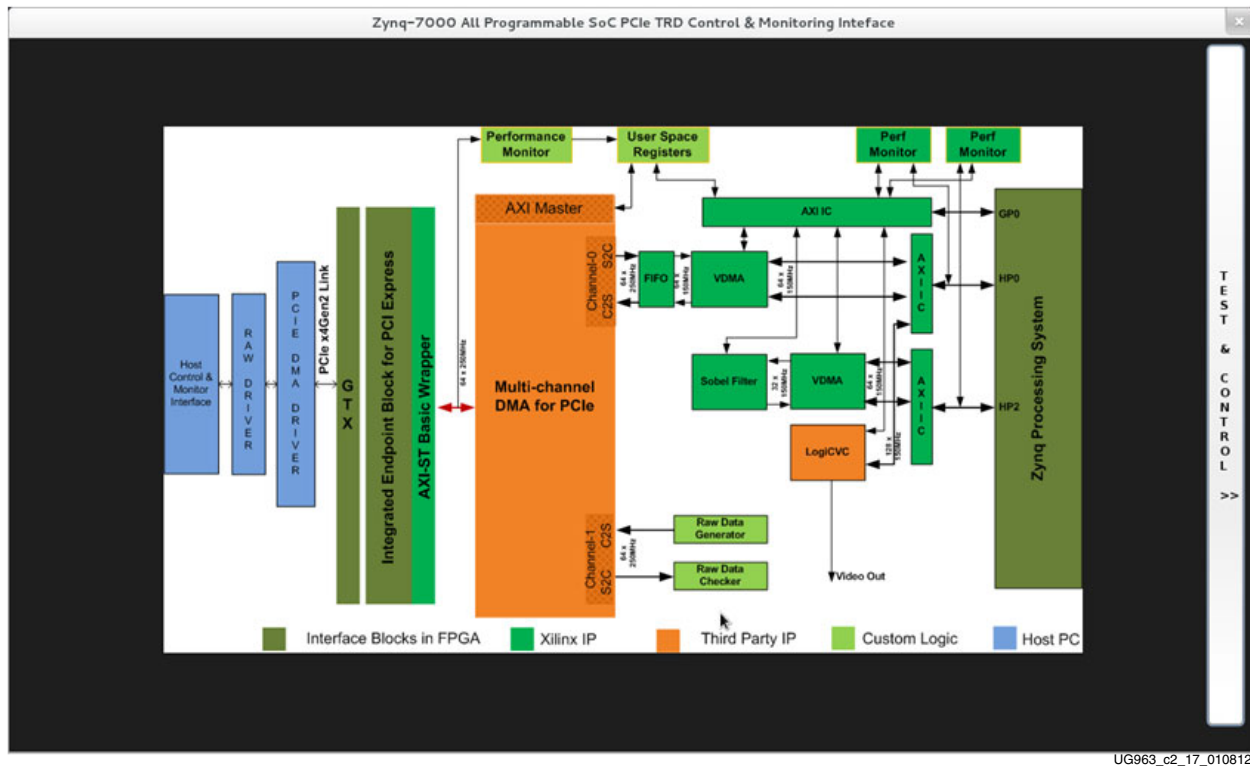

Figure 2-17: Design Block Diagram
11. User can click on the Block Diagram option to view the design block diagram as shown in Figure 2-17.